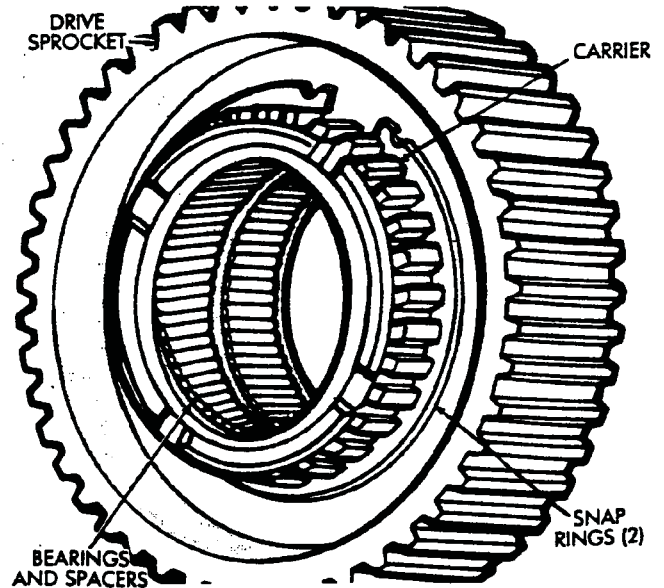

Fig. 4-53 Assemble Drive Sprocket and Carrier
46. Install carrier in drive sprocket. Then install carrier snap rings (Fig. 4-53).
48. Install the center bearing spacer in carrier bore. Then install the needle bearings and two outer spacers (Fig. 4-53). Use extra petroleum jelly to hold the outer spacers in place.